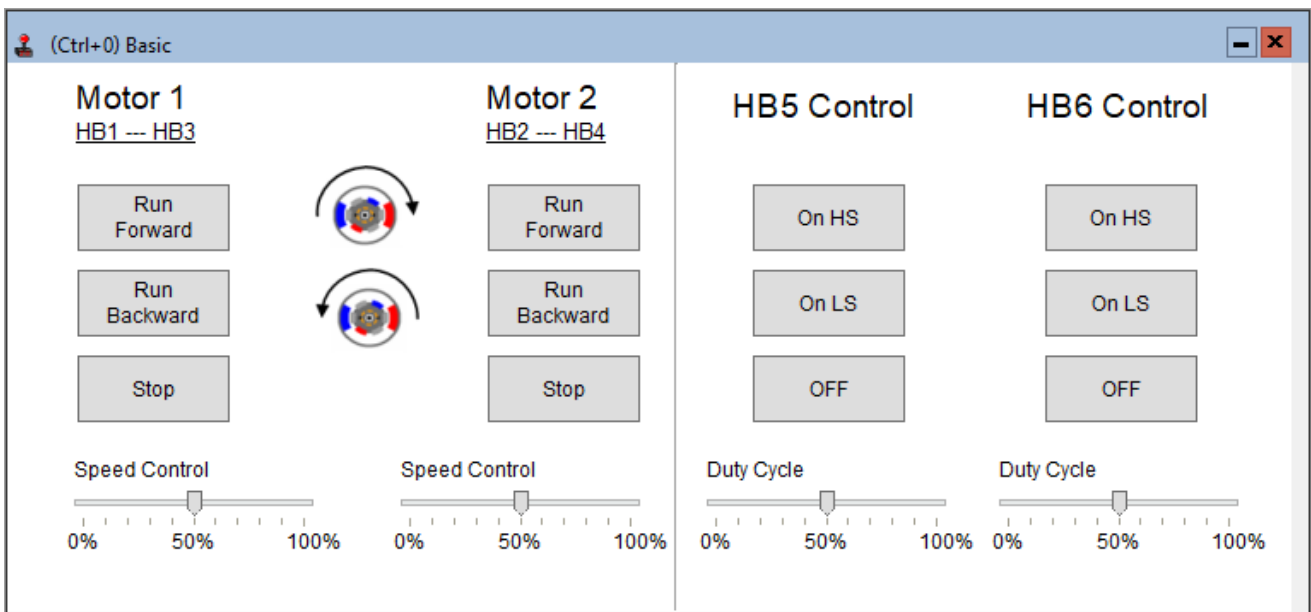

Figure 8. NCV7546 Controller Framework, Basic Window
11. "Basic" window (Figure 8) demonstrates simple control of two loads including direction and speed